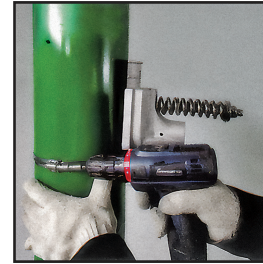

FIGURE 1
STEP 1: Position and attach the bracket to pole with spring on top and attach to pole, using duct tape to temporarily secure bracket while metal bands are positioned (Figure 1). Secure metal bands with screwdriver or banding tool, and remove duct tape.